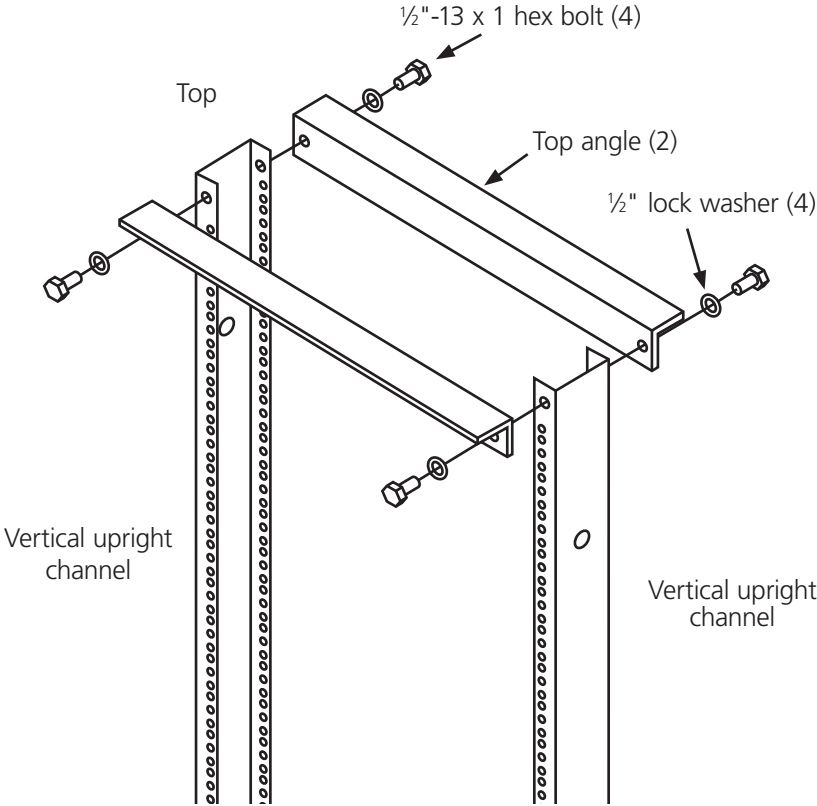

Figure 1. Step #1: Connecting the upright channels to the top angles.
- a. Lay the vertical upright channels on edge so the tapped holes face you and the floor. Be sure the open sides of the upright channel face each other as shown in Figure 1.